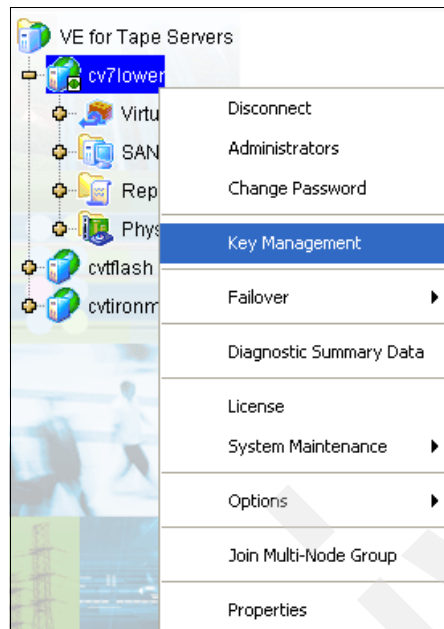

Figure 12-64 Starting the key management process
1. Right-click the TS7530 Server name and select **Key Management** in the navigation tree, as shown in Figure 12-64.